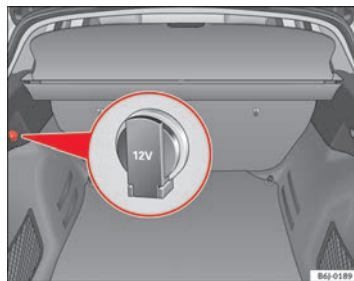

Fig. 85 Detailed view of the side trim in the luggage compartment: 12 volt socket
- Lift the power socket cover \Rightarrow fig. 85.